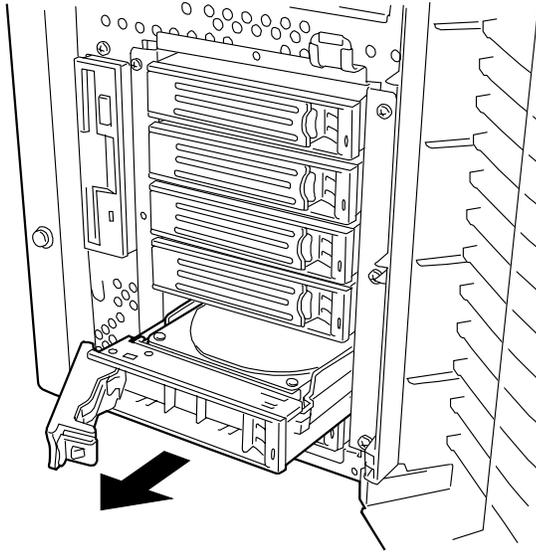

Figure 4-25. Removing a Hard Disk Drive
5. Hold the drive carrier handle and hard disk securely and remove the hard disk from the drive bay. See Figure 4-25.